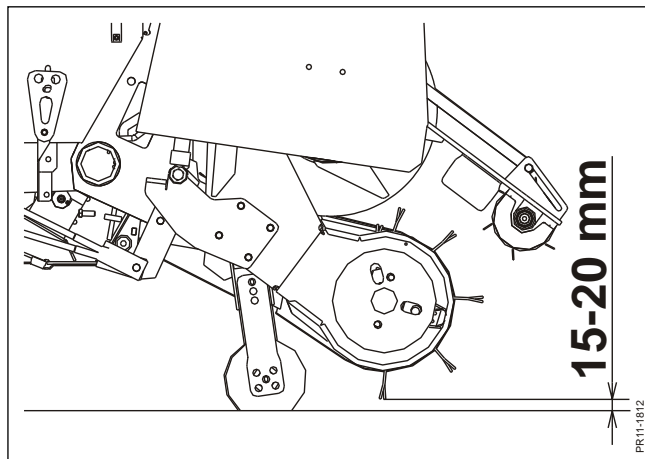

Fig. 4-1
**Fig. 4-1** The underside of the pick-up is equipped with steel supporting rollers, which are height-adjustable. You should keep the pick-up at such a height that the tines do not hit the ground and get earth into the crop, but so that the tines can also pick up the grass without waste.